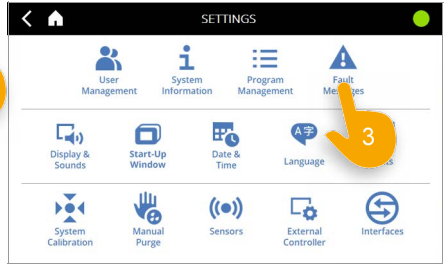

Fig. 100
3. By selecting Start screen – Settings – Error messages (Fig. 100).